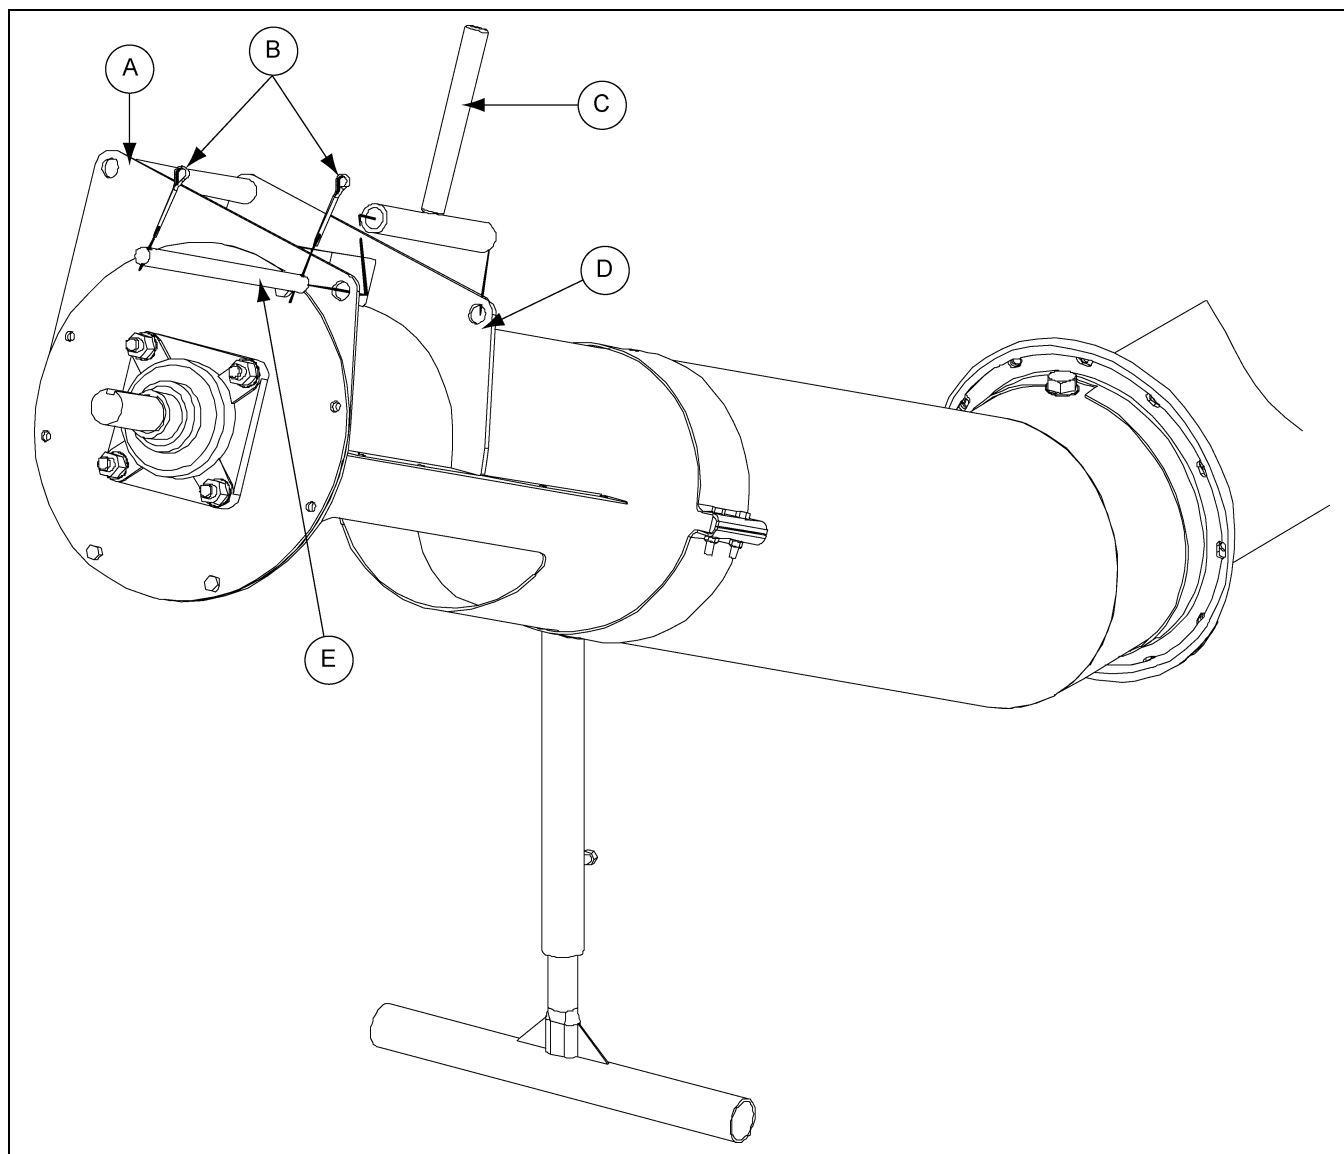

Figure 4E
2. Insert pivot rod through the tube plates and motor mount adjuster. Secure in place with two (2) 3/16" x 2" cotter pins. (See Figure 4E.)